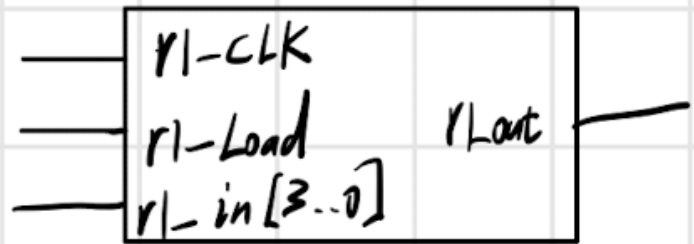

Fig.4.2. Reg_1
- Reg_1: the entity of the multiplier R register (Fig.4.2). CLK can be used to generate the clock signal and LOAD is used to loading (initialize) the multiplier value. r_1 is the 4-bits input with one output to pass the value that been shifted.